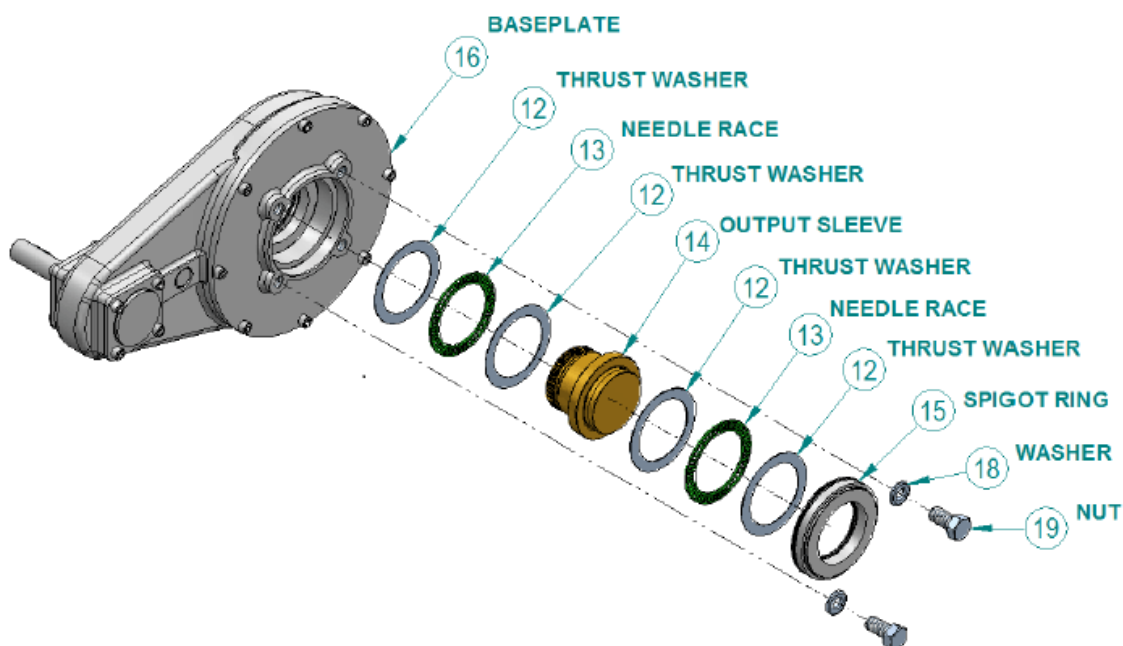

Figure 119: IS Gearbox Output Sleeve Assembly
See Figure 119: Note that the output sleeve arrangement is identical for IB and IS gearboxes. The sleeve (14) can be easily removed from the gearbox by first removing the loose piece spigot ring (15) from the baseplate (16). A slight force may have to be applied to the face marked 'C' to assist in removing the sleeve.
1. Ensure the machined output sleeve assembly is correctly assembled into the gearbox (see Figure 119).